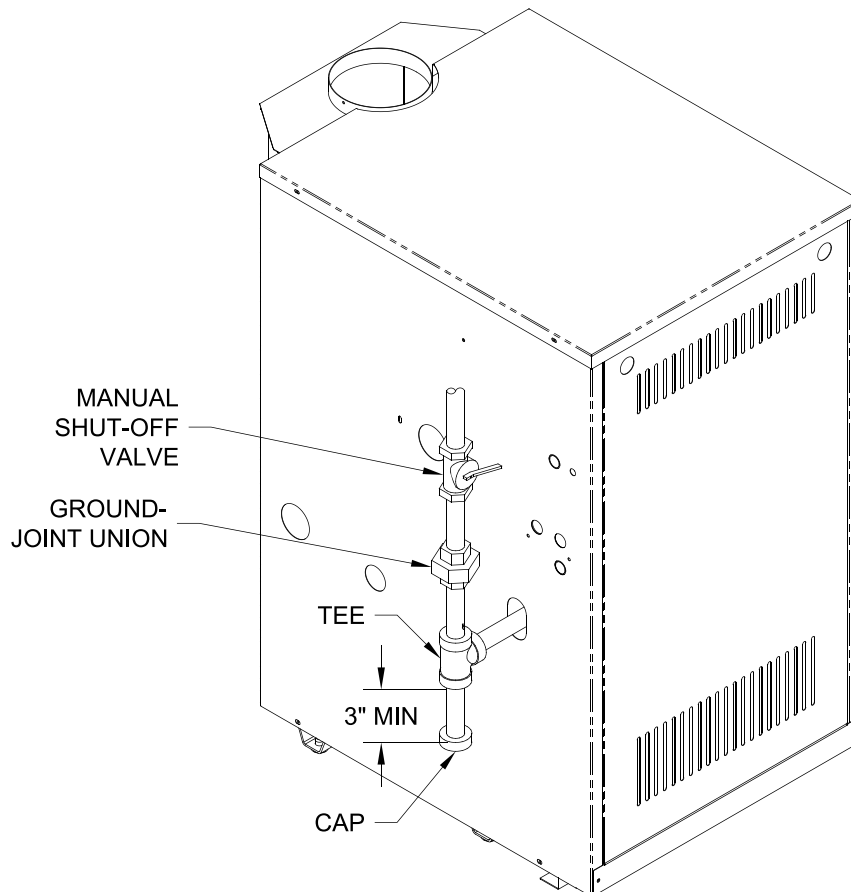

Figure 8: Pilot and Gas Piping
3. Install sediment trap, ground-joint union and manual shut-off valve upstream of boiler gas control valve. See Figure 8.